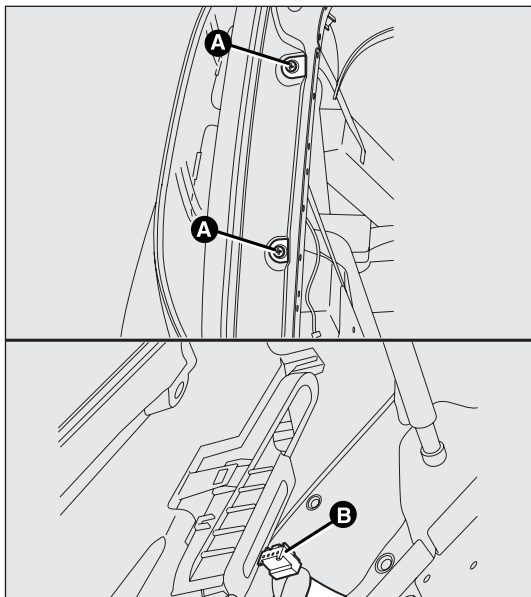

fig. 146
The bulbs are arranged inside the light cluster fig. 146 as follows:
- ☐ undo both fixing screws A-fig 146;